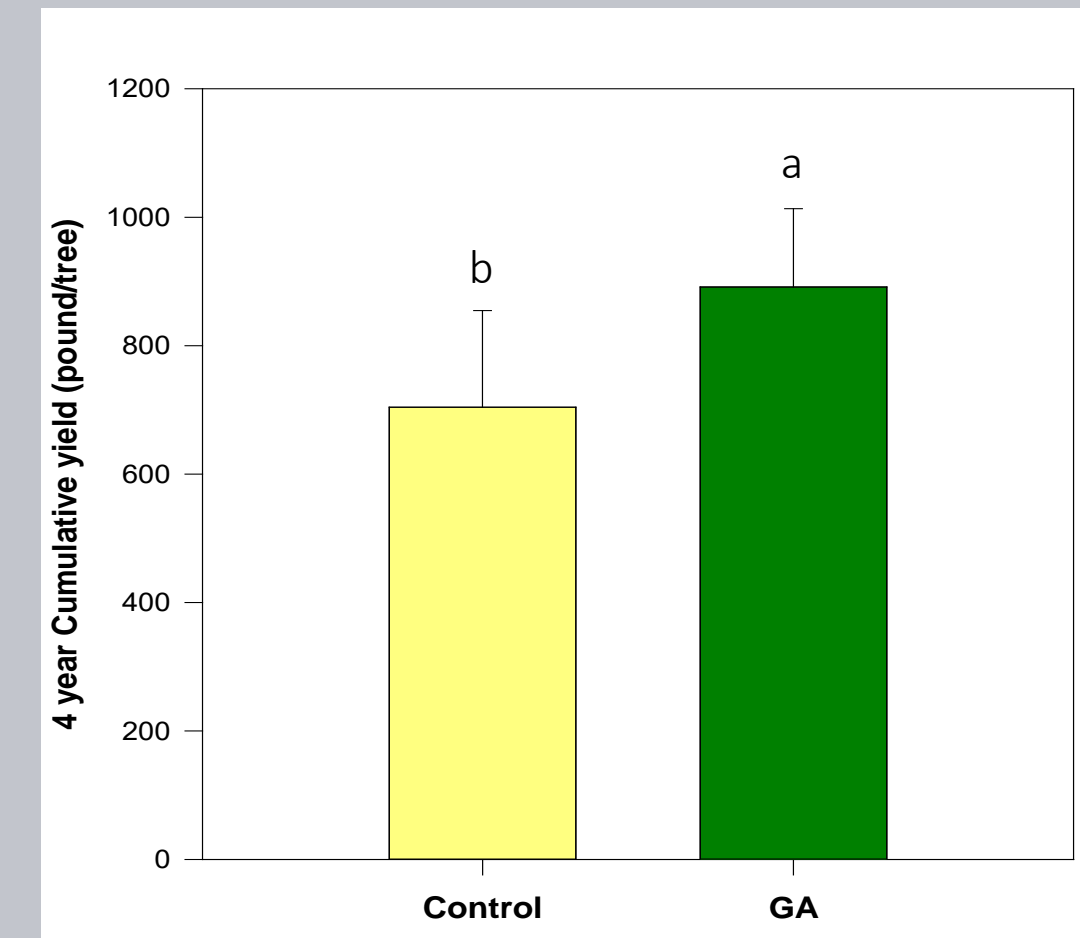

Figure 2. GA-treated trees produced 23% more pounds of fruit per a tree than the control
- According to four-year average, GA treated trees produced 228 lbs of fruit per tree versus 175 lbs of fruit per tree. This can be extrapolated as 370 boxes per acre with GA treatment as compared to 292 boxes per acre in untreated control. (Figure 2)